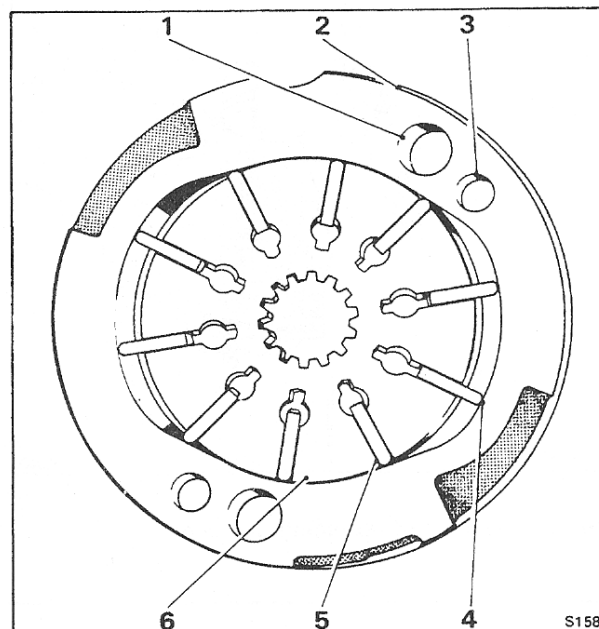

Fig. N22 Plan view. Rotor, vanes and pump ring
8. Fit the vanes into the rotor slots with the radiused edge facing outwards (see Fig. N22).